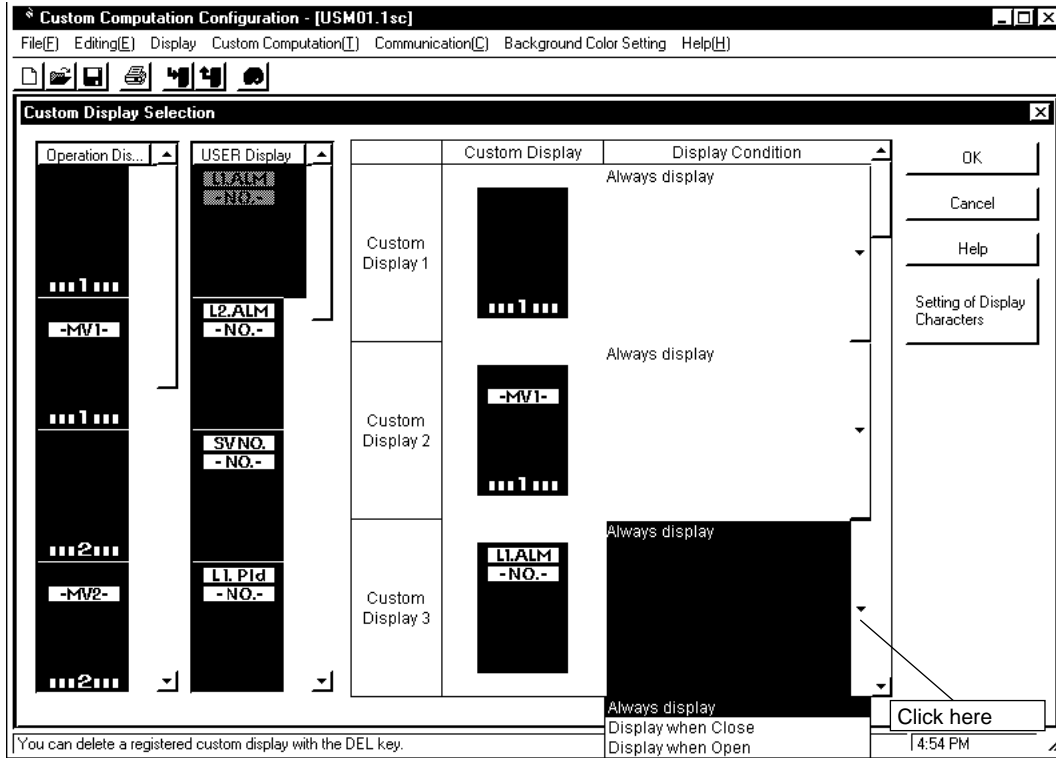

Figure 5.2.7 Display Conditions Set for Loop-1 Alarm Display
④ Next, set the display conditions. Click the Display Conditions drop-down list box (Figure 5.2.7).